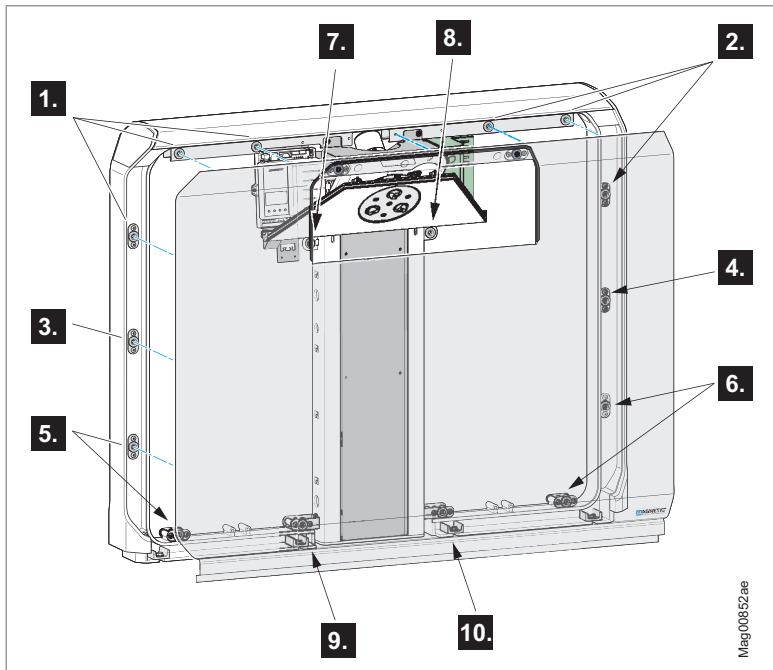

Fig. 22: Disassembly of the front panel
- Alternately open side closures. ↗ Fig. 22, 1. to 6.
- Open the top closures. ↗ Fig. 22, 7. to 8.
- Open the lower closures. ↗ Fig. 22, 9. to 10.